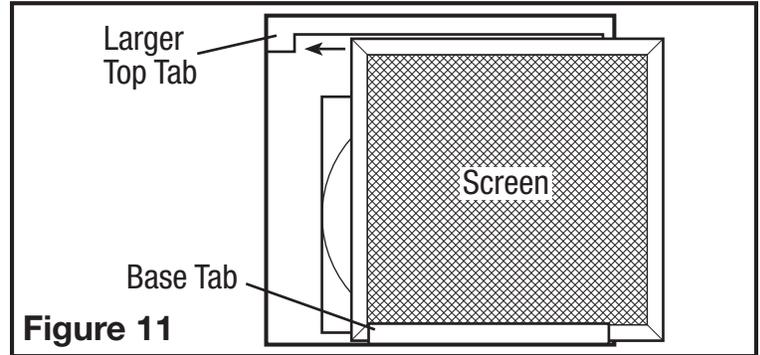

Figure 11
- If the screen is not in place, insert the screen into the tab at the base of the unit (make sure the wider side of the screen is running side to side inside the unit) (**Figure 11**).
- Slide the screen to the side with the larger top tab making sure the screen fits behind the tab (**Figure 11**).